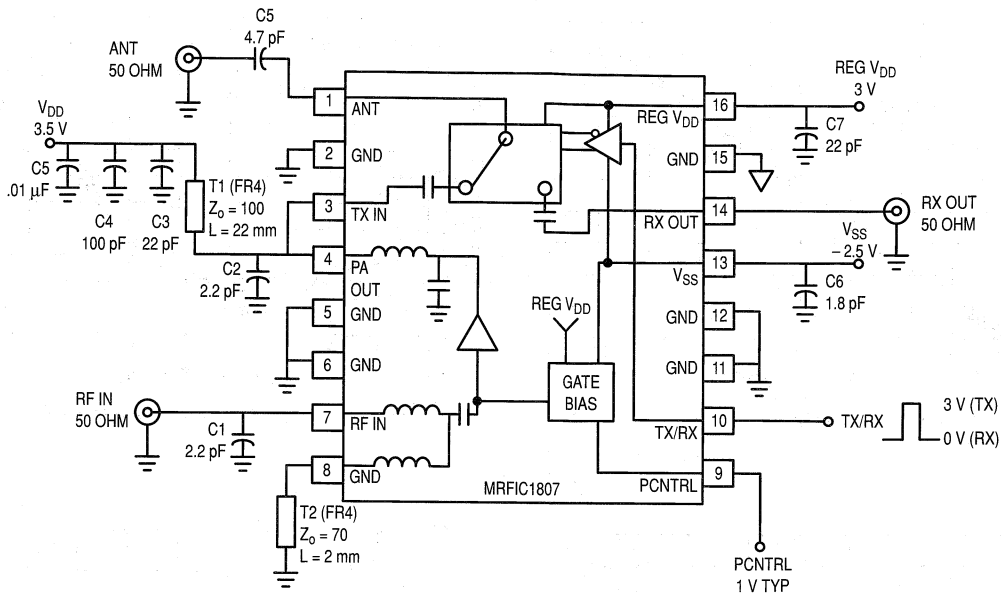

Figure 2. 1.9 GHz Applications Circuit Configuration
1. Measured with circuit configuration shown in Figure 2.